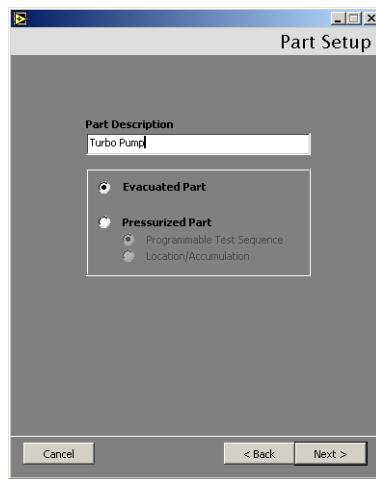

Figure 2-10 Part Setup
2. Click **New Part** and click **Next** and Figure 2-10 appears.